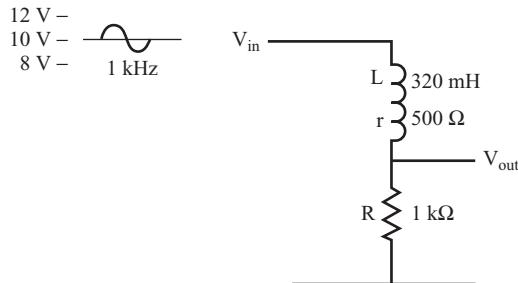

FIGURE 6.45
- 31** For the circuit shown in Figure 6.45, the DC resistance of the inductor is large enough that you should include that value in your calculations.
For the circuit shown in Figure 6.45, calculate the DC and AC output voltages, using the steps listed in problem 30.